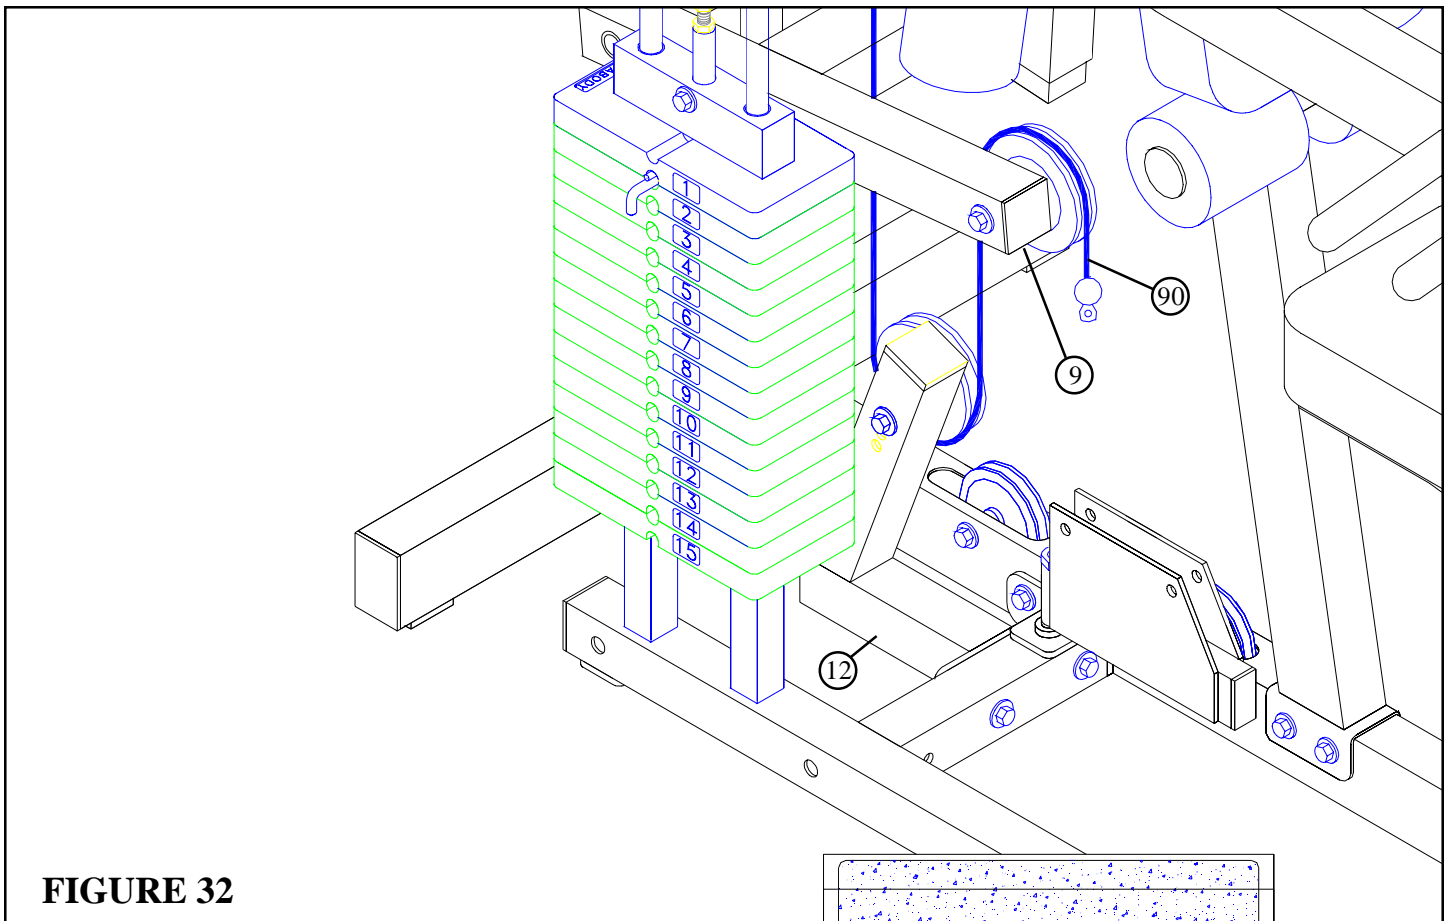

FIGURE 32
- Route ball end of LEG EXT. CABLE (90) under pulley and cable retaining clip on LEVER STOP (12) as shown in FIGURE 32. (NOTE: The bolt holding pulley and cable retaining clip may need to be loosened to align cable retaining clip with cable.)
- Route ball end of LEG EXT. CABLE (90) under pulley and cable retaining clip on PRESS ARM LEVER (9). (NOTE: The bolt holding pulley and cable retaining clip may need to be loosened to align cable retaining clip with cable.)